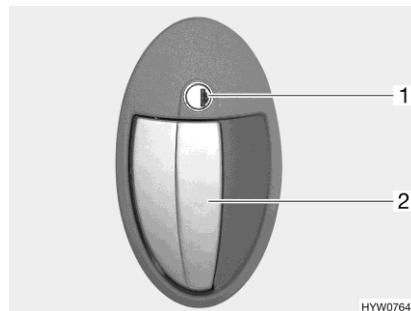

Fig. 31 Door lock (living area door, outside)
- Insert the key in the locking cylinder (Fig. 31,1) and turn it in a clockwise direction until the door lock is unlatched.
- Pull on the door handle (Fig. 31,2). The door is open.
- Insert the key in the locking cylinder (Fig. 31,1) and turn it in an anti-clockwise direction until the door lock is engaged.